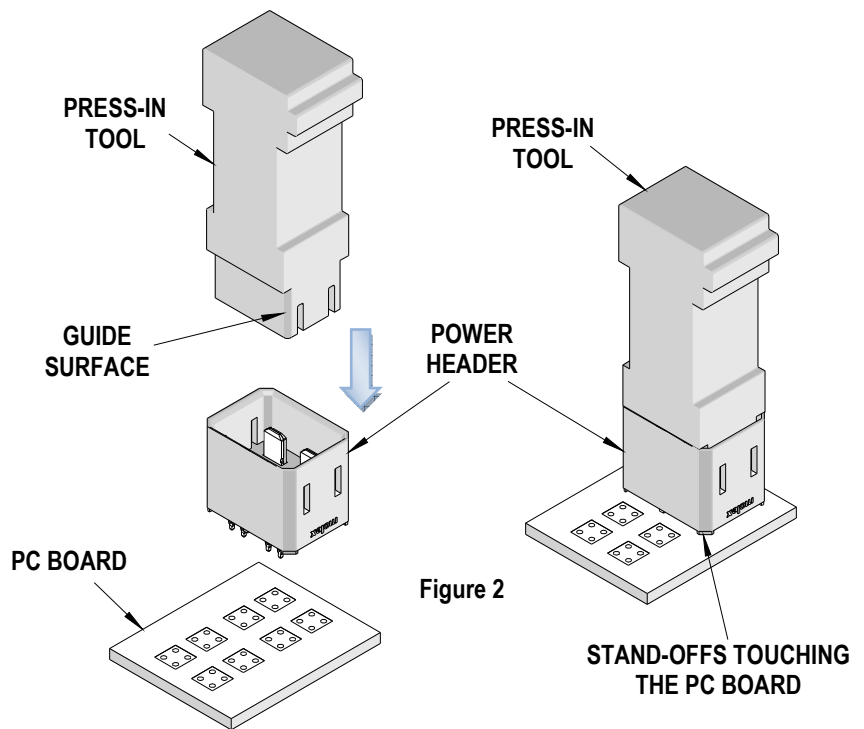

Figure 2
2. Line-up the Press-In tool so the tool fits inside the power header. See Figure 2.
3. Using the application tool and an appropriate press, press in the power header until the stand-offs touch the surface of the PCB. See Figure 2.